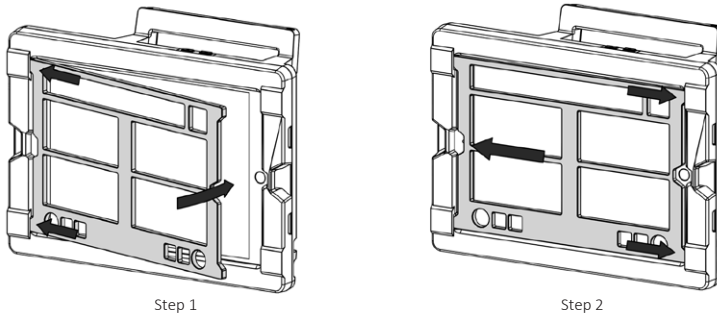

Figure 4.3 Attaching keyguards
Keyguards are positioned on top of the screen and secured to the front casing ③ of the Rehadapter™. Attach the keyguard as shown on **Fig. 4.3**. Slide the keyguard into the keyguard click system ⑧ on one side, then push them down on the other side, and they will snap into place.